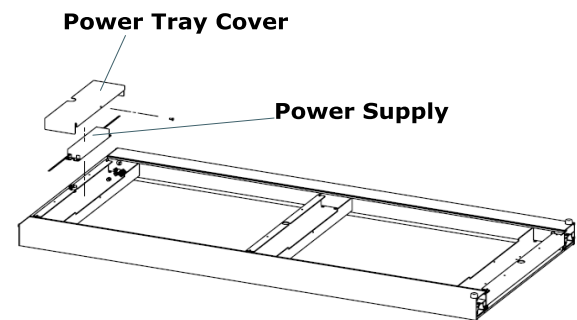

Figure 9
6. Remove the power tray screw and power tray cover to expose the power supply. Then remove and replace with new power supply. **See Figure 9.** Re-assemble mirror in reverse order with the final step of plugging the mirror into the power receptacle.